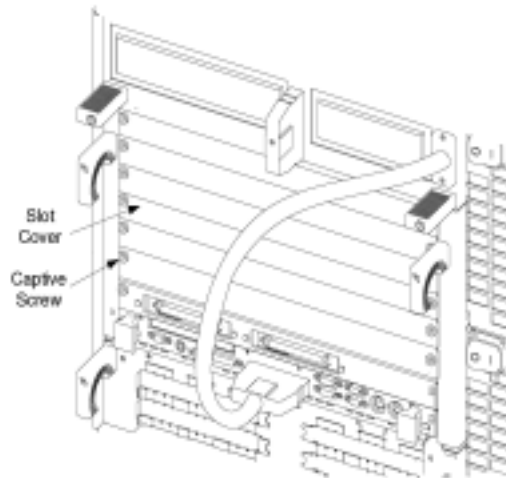

Figure 3-1 **Installing a VME Card**
- 3 Using Figure 3-1 as a guide, loosen the captive screw on each end of the slot covers where you will install VME card(s), and then remove the covers.